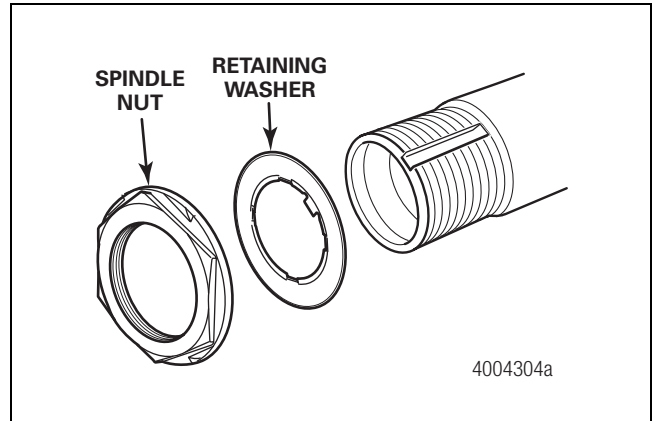

Figure 4.8
- The retention hardware consists of a two-piece system including a spindle nut and a retaining washer. Figure 4.8.